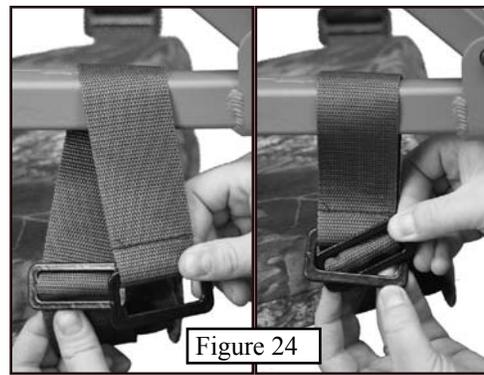

Figure 24
**Step 3.** Either have a helper hand you the seat or bring it up with a pull rope. The seat on the Single Shot ladder stand is removable. Wrap the webbing over the frame and buckle as shown in **Figure 24**. The back of the seat has a flexible snap that can be secured over the frame. This will hold the back of the seat upright. **DO NOT** reverse the seat on this Treestand.